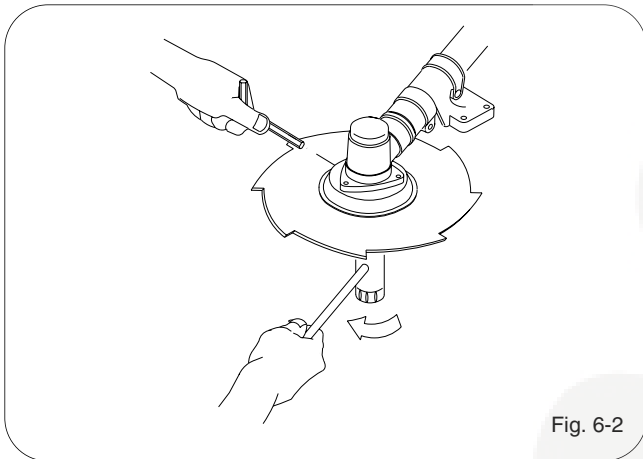

Fig. 6-2
- e) Blade locking nut or bolt (Fig. 6-2)
- d) Blade locking nut or bolt (Fig. 6-2)